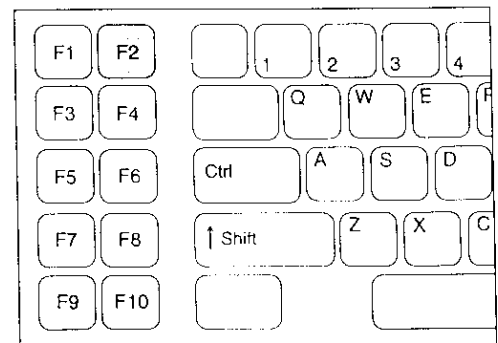

Fig. 45
1. Hold the Ctrl key and press F2 (Fig. 45).